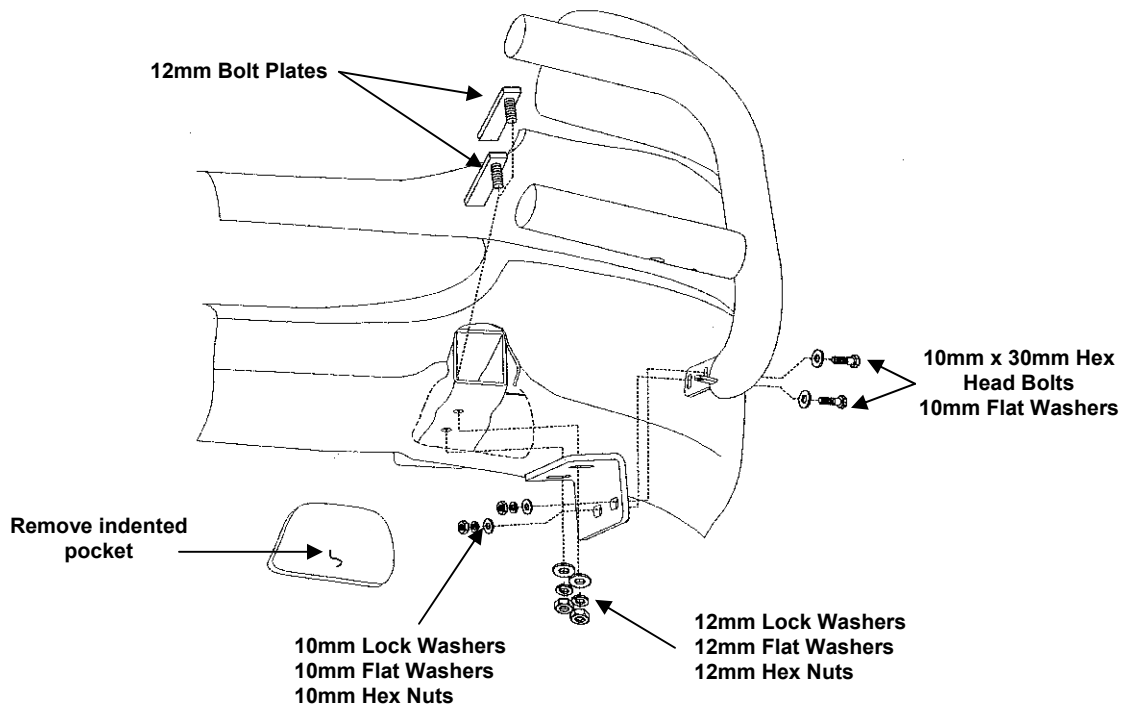

Figure 2
6. Position Bottom Brackets up to bottom frame and trough Bolt Plates and secure them with the included (4) 12mm Flat Washers, (4) 12mm Lock Washers, and (4) Hex Nuts (**Figure 2**).
7. Position Bull Bar on the outer side of Mounting Brackets. Attach Bull Bar to Mounting Brackets using the included (4) 10mm x 30mm Hex Head Bolts, (4) 10mm Lock Washers, (4) 10mm Hex Nuts, and (8) 10mm Flat Washers.